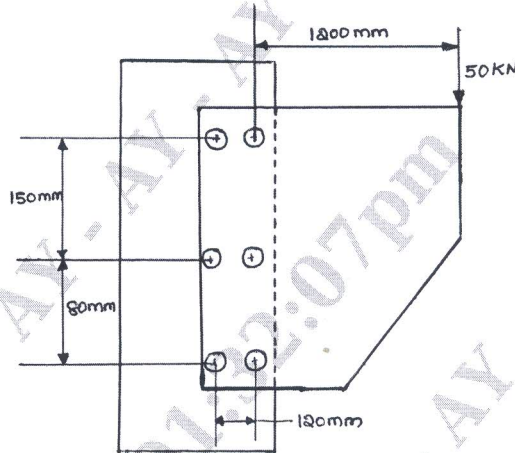

Fig.Q7(b)
- b. Determine the diameter of rivet for the joint shown in Fig.Q7(b). The allowable stress in the rivets is  $100 \text{ N/mm}^2$ .